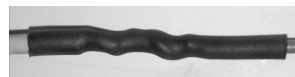

FIG. 68
5. Slide the shrink tubing over the soldered wires. Use a heat gun to contract the shrink tubing (FIG. 68).